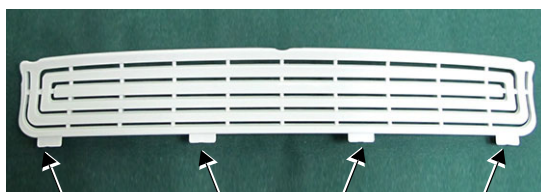

Figure 8-62 Touch Screen Service Cover - Securing Tabs
Note: The Touch Screen Service Cover, located at the lower rear of the Touch Screen, clips into the Touch Screen Rear Cover by way of 4 securing tabs - Figure 8-62.
- 2) Using a flat screwdriver, carefully release the Service Cover snap-lock securing tabs (Figure 8-62) from the rear of the Touch Screen rear cover.
Note: The Touch Screen Rear Cover is fastened to the back of the Touch Screen by 3 screws through securing tabs located on the base of the cover and 2 screws at the top - Figure 8-62.